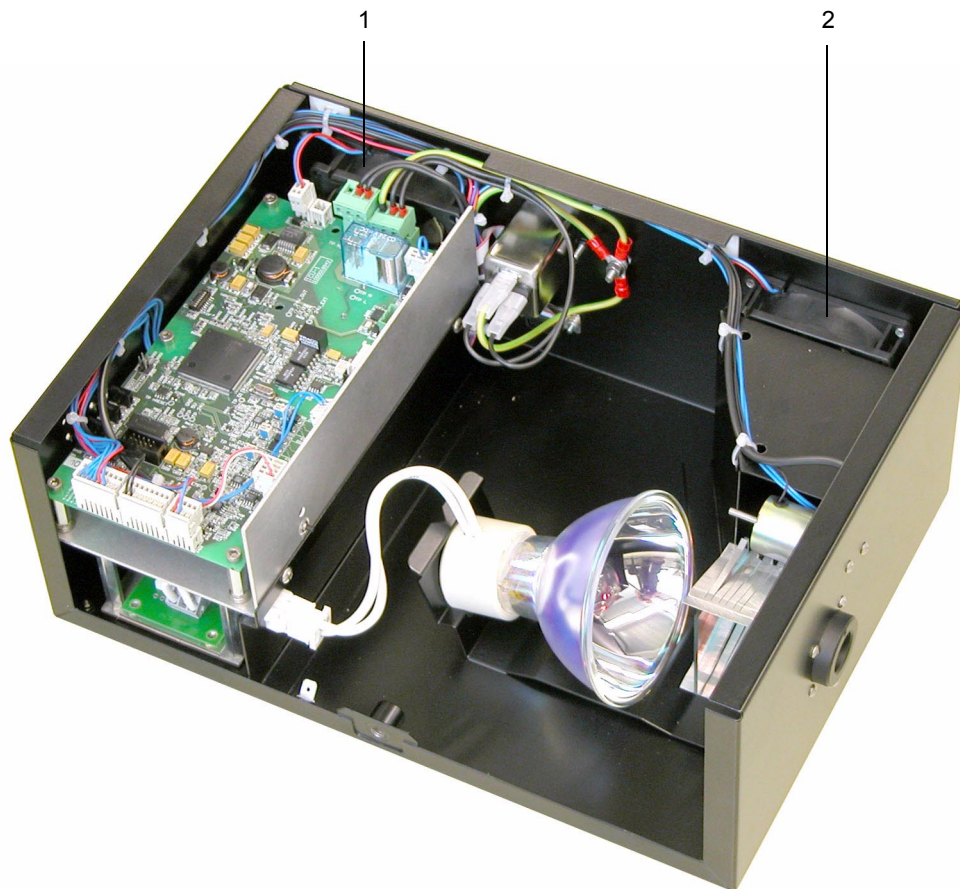

Fig. 9: Fans
Fig. 9: Each illumination module is equipped with two fans. They direct the air flow from the illumination module into the power distribution and mounting unit (lamp box). One fan (1) cools the following components: